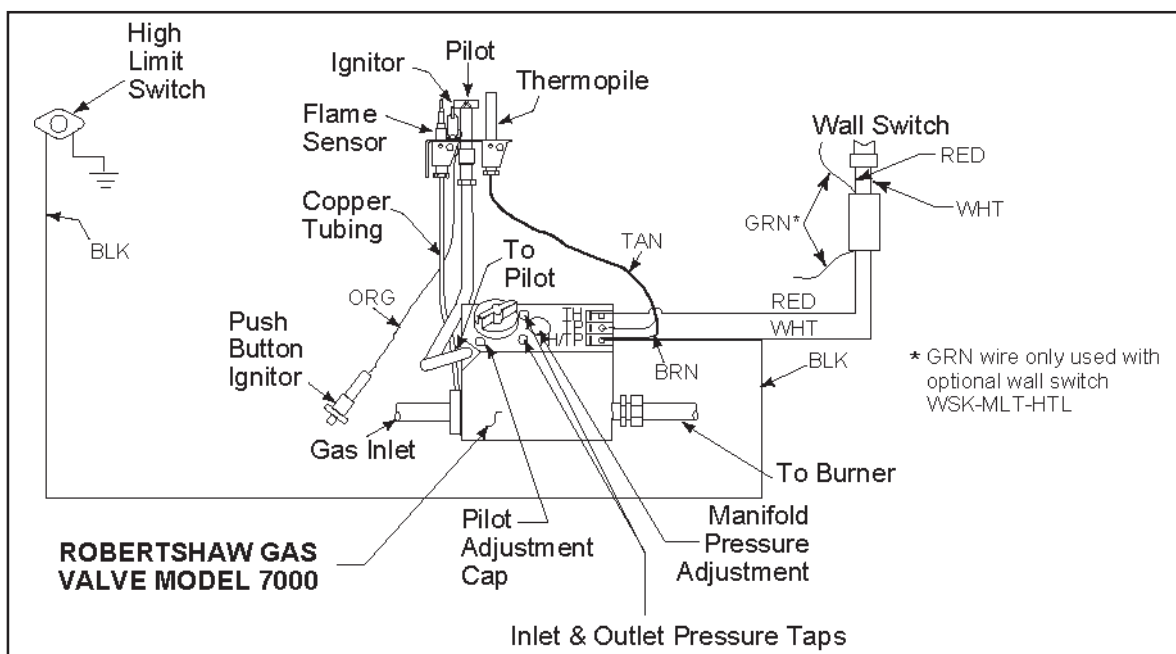

Figure 13 - Standing Pilot Ignition Wiring Diagram
- 2) This appliance may be connected to a thermostat (not supplied). Use a thermostat that is compatible with a millivolt gas valve. See Figure 13 for a wiring diagram.